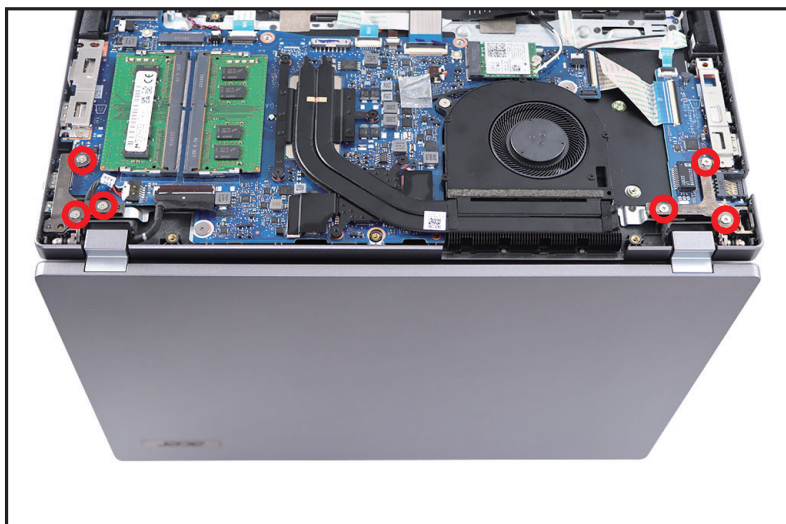

Figure 1-19. LCD Module Removal
2. Remove six (6) screws securing the LCD hinges in place (Figure 1-19).